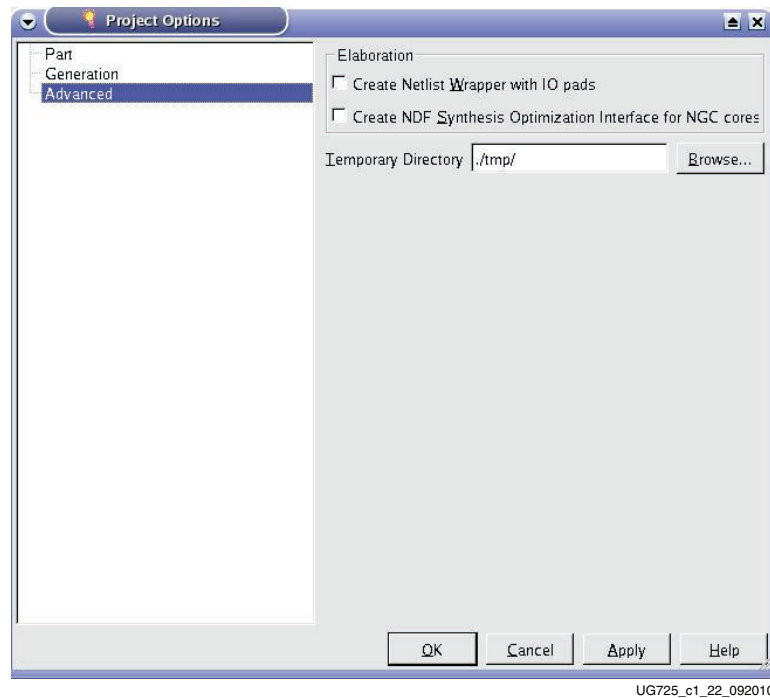

Figure 1-23: Advanced Options
8. In the Project Options window, under **Advanced**, leave all settings unchanged. Figure 1-23 shows the correct settings.